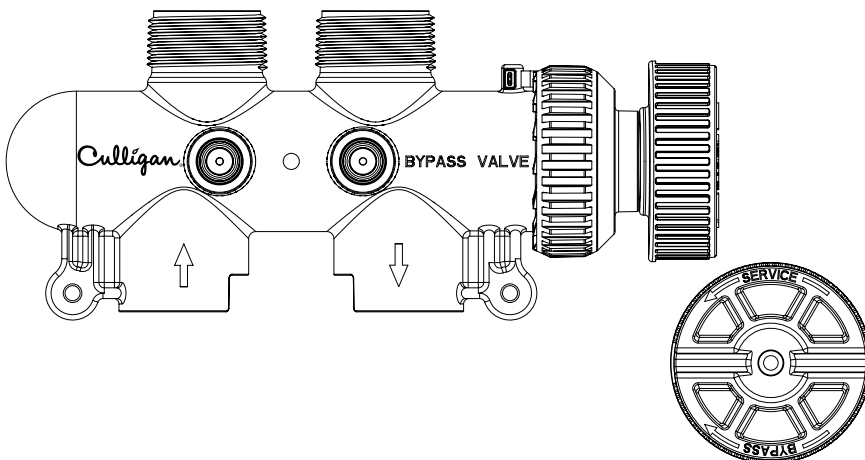
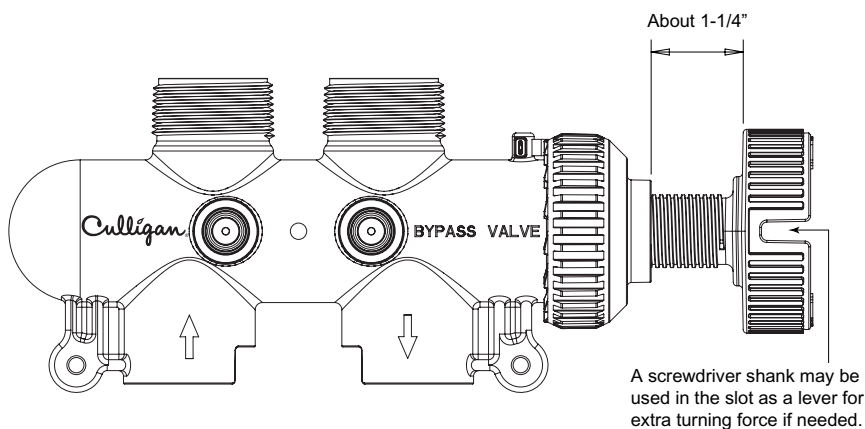

Figure 15. Turn blue bypass knob clockwise.
Figure 16. Turn bypass knob counter-clockwise.
- To bypass, turn the blue knob clockwise (see directional arrow on end of knob) until the knob stops as shown. DO NOT OVERTIGHTEN! (Figure 15). To return to service, turn the blue knob counter-clockwise (see directional arrow on the end of knob) until the knob stops as shown. DO NOT OVERTIGHTEN! (Figure 16).